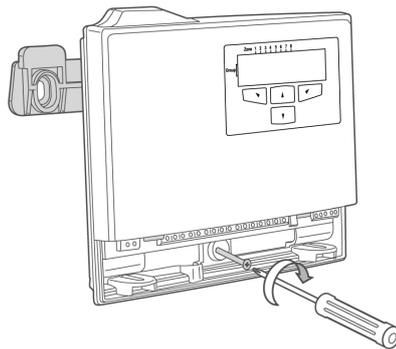

Figure 3: Installing the Third Screw
6. Assemble the Merlin on the bracket and fix using the third screw (see Figure 3).